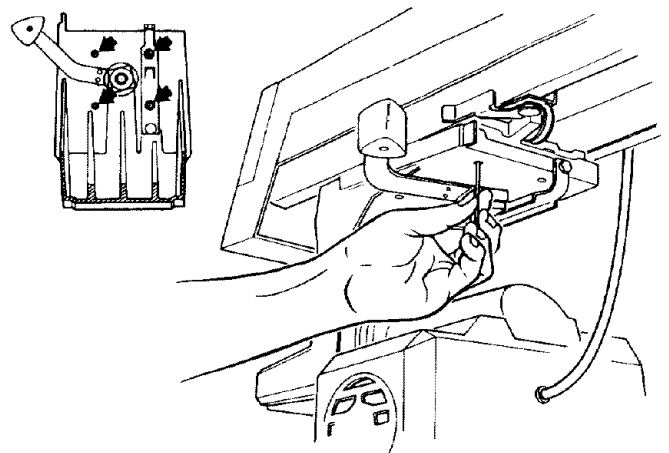

Fig. 86
7. Loosen the four screws under the *yoke* using a 3/16 inch hex-L wrench and pliers if necessary. (Figure 86)